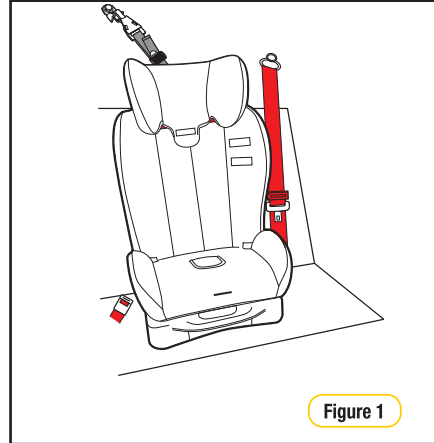

Figure 1
Step 1: Undo the adjustment nut which is located at the back of the restraint, to move the headrest either up or down (refer Figure 1).
Step 2: Place the restraint in desired upright or reclined position, with the back against the back of the vehicle seat, directly in line with the anchorage point (refer Figure 1).